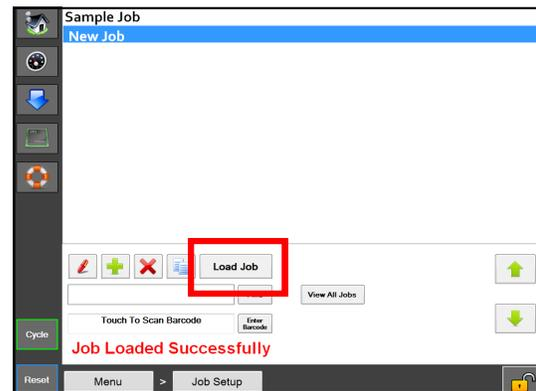

Figure 5-2D. Load Job Button.
7. Press the Load Job Button. This will send the highlighted job to the PLC and send the label, if applicable, to the printer. **Figure 5-2D.**